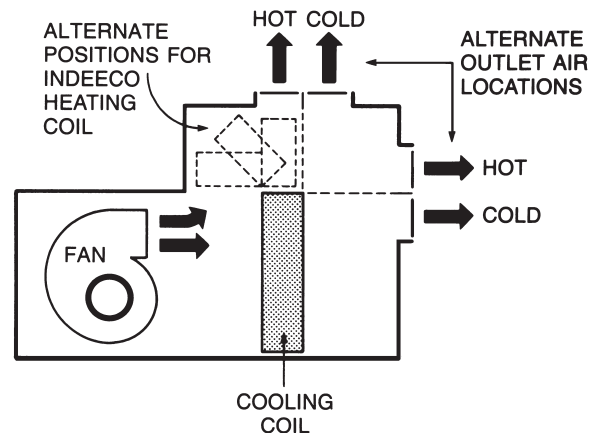

Figure 51
**Multi-Zone or Dual Duct Heaters** – These heaters are designed for installation inside multi-zone or dual duct air conditioning equipment, where the airflow is highly variable and unevenly distributed (Figure 51). These heaters use coils derated to approximately 25 watts per square inch (3.8 watts per square cm) of wire surface area (approximately one half normal watt density). Low density coils run cooler, and thus, provide longer life under these stringent operating conditions.